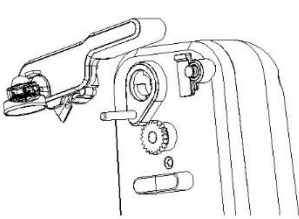

Fig.1
1. Fit the lever onto the body of the can opener (Fig.1)